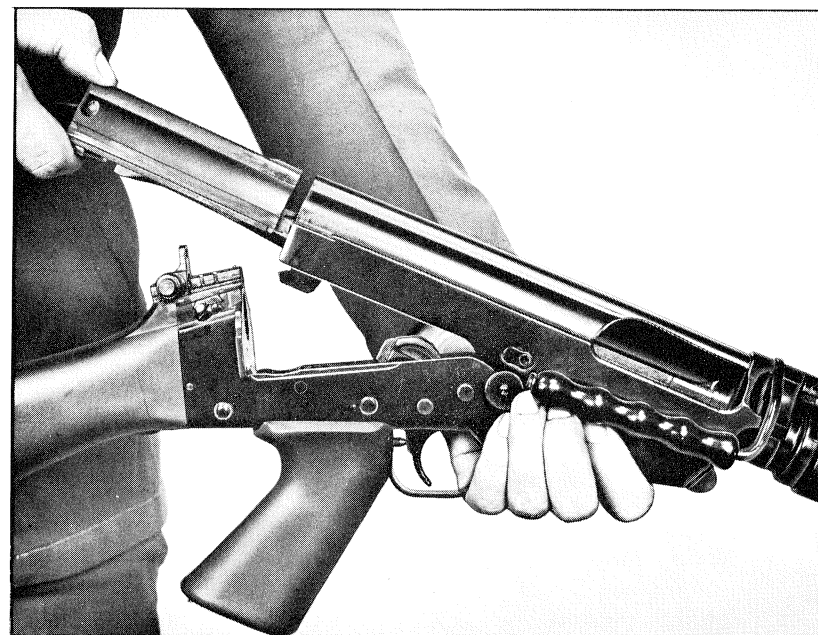

Fig. 139
- Replace the mechanism in the weapon, inserting the ribs of the slide in the grooves of the receiver. Push the bolt to its forward position (fig. 139), and keep the rifle with the muzzle turned down; the mechanism will drop itself in place.